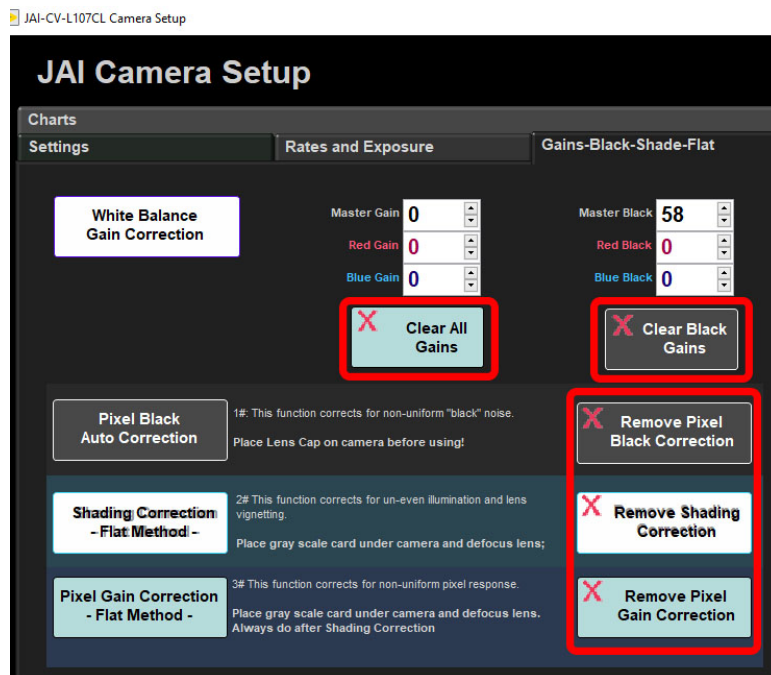

Figure 15. Remove the corrections and clear gains.
2. Click the **Clear All Gains**, **Clear Black Gains**, **Remove Pixel Black Correction**, **Remove Shading Correction**, and **Remove Pixel Gain Correction** (Figure 15). You will notice all values in the Master and Black gains go to zero.